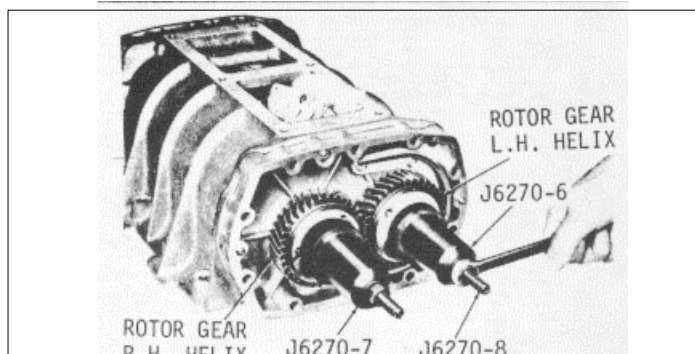

Fig. 20
- (g) Thread an installer screw J 6270-8 in the end of each rotor shaft until it bottoms. Place gear installer J 6270-7 over the installer screw and against the right-hand helix gear, and gear installer J 6270-6 over the installer screw and against the left-hand helix gear; then, thread a nut on each installer screw (Fig. 20).
on the installer screws clockwise as shown in Fig. 20 and force the gears into position tight against the shims and bearing inner races.